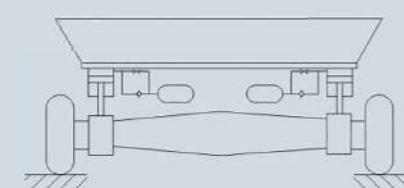

图8 Fig.8
6. 液压设备中的机械振动可被蓄能器吸收，用于叉式提升机的驱动和悬挂系统、移动吊车、农用和市政设备、石块破碎机等。(图8所示)
Mechanical shocks in hydraulically driven equipment can be absorbed by accumulators. Possible applications are in drive and suspension systems for fork-lifts, mobile cranes, agricultural and civil engineering machinery, rock crusher etc.(Fig.8)